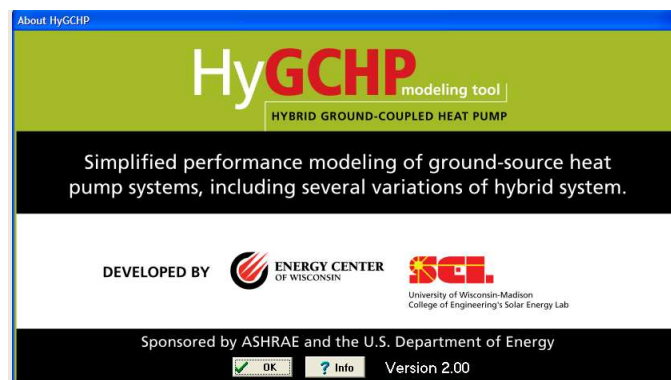
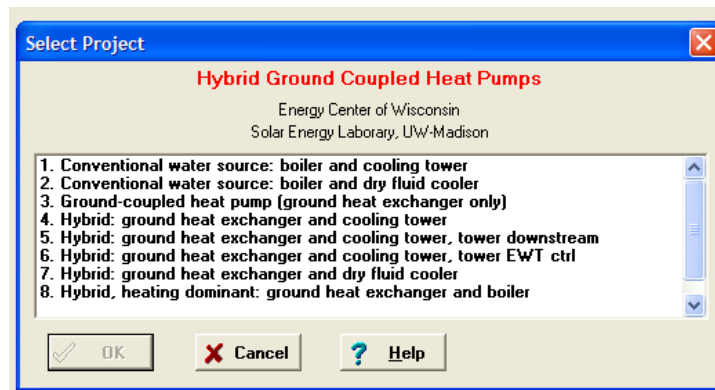

Figure 8. HyGCHP Splash Screen
Figure 9. Select the system to be considered
- 2.) The splash screen for the HyGCHP program should appear (Figure 8); select **OK** to run the program (Figure 9, or click Info to launch the online help).
- 3.) Select the system to be simulated (Figure 9). Six systems can be selected from. For now, select **Hybrid system: ground heat exchanger and cooling tower** and press **OK**.